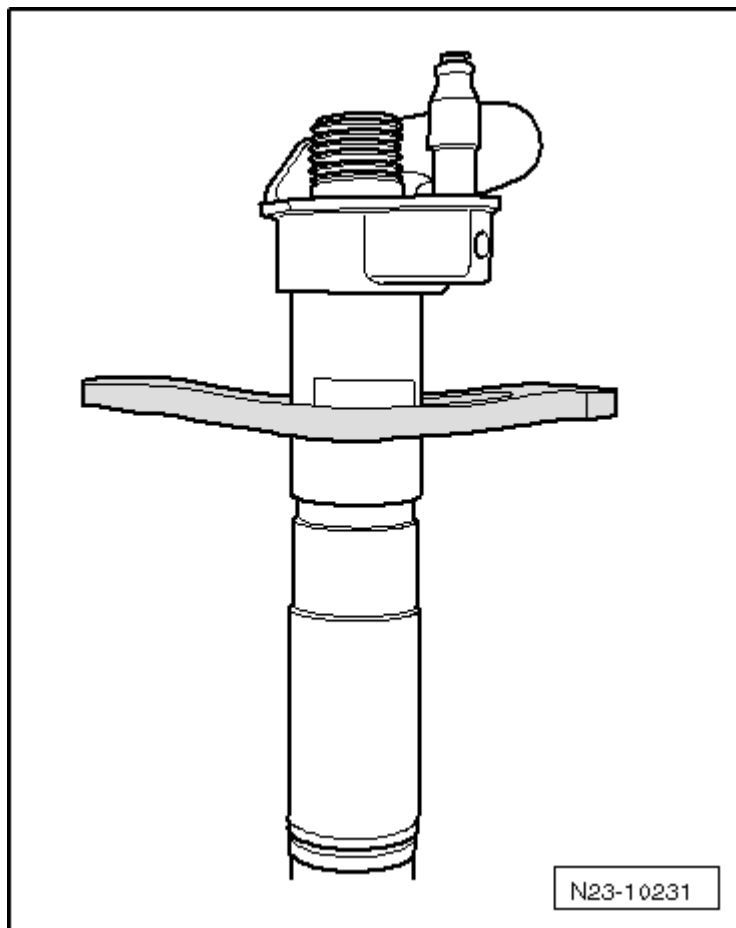

Fig. 2: Identifying Tensioning Plate Installed Position
- Note the installed position, refer to **Fig. 2**.